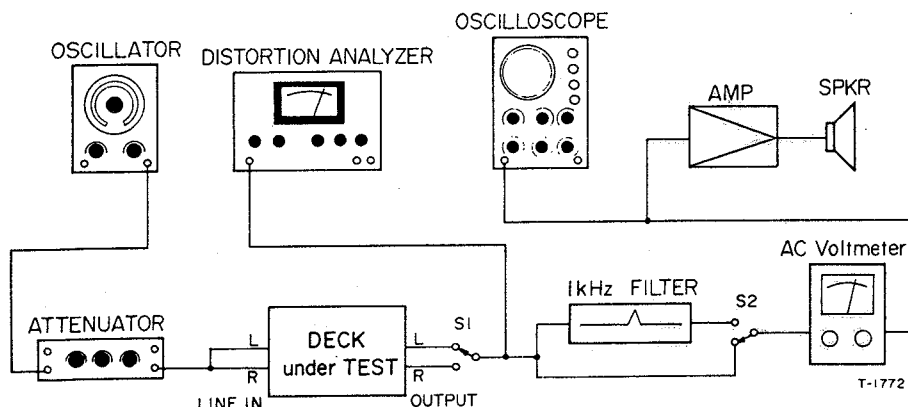

Fig. 6-3 Basic Test Setup
| 2. Specified output level | Connect AC voltmeter between DOLBY TP L (R) and TP EFig. 6-3 | MTT-150 tape                          | R10/R20                               | 580 mV (−2.5 dB)                                                                                                                                                  | ● Specified level                 |
| 3. Peak level meter       | Fig. 6-3                                                         | MTT-150 tape                          | R70/R80                               | 0 dB on peak level meter                                                                                                                                          |                                   |
| 4. Frequency response     | Fig. 6-3                                                         | MTT-316 tape, 40 Hz to 10 kHz section | R11/R21                               | Reference 315 Hz:40 Hz: +2, −4 dB63 Hz: +2, −4 dB125 Hz: +2, −2 dB2 kHz: +2, −2 dB4 kHz: +4, −2 dB6.3 kHz: +4, −2 dB10 kHz: +4, −5 dB |                                   |
| 5. Signal to noise ratio  | Fig. 6-3                                                         | MTT-501 tape                          | Check                                 | 47 dB (min.) ratio                                                                                                                                                | ● Ratio of spec. −5 dB and noise. |
| 1. Min. input level             | Fig. 6-3, but LINE IN → MIC                                                           | Test tone, 400 Hz/-67 dB ± 3 dB (245 μV to 489 μV)   | MIC cont. to Max.            | -5 dB (436 mV)                  | ● For MIC check                                                                                            |
|                                        | Fig. 6-3, but LINE IN → DIN IN                                                        | Test tone, 400 Hz/-35 dB ± 3 dB (9.75 mV to 19.5 mV) | "                            | "                               | ● For DIN IN check                                                                                         |
|                                        | Fig. 6-3                                                                              | "                                                        | Check                        | -5 dB ± 1 dB (388 mV to 489 mV) | IMPORTANT: After this, do not move LINE cont. for all later process.                                       |
| 3. Peak level meter             | Fig. 6-3                                                                              | Test tone, 400 Hz/-9 dB (275 mV)                     | Check                        | 0 dB ± 1 dB on peak level meter |                                                                                                            |
| 3. Record level | Fig. 6-3                                                                                                                            | Test tone, 400 Hz/-12 dB (195 mV) | R16/R26 ....Check ..... | -8 dB (308 mV) ....-8 dB ± 1 dB (275 mV to 346mV) }        | .... Co (CrO 2 ).... NORMAL.... METAL |
| 4. Distortion   | Fig. 6-3                                                                                                                            | Test tone, 400 Hz/-12 dB (195 mV) | Check                       | 2.2% or less .....2.5% or less .....2.0% or less ..... | .... Co (CrO 2 ).... NORMAL.... METAL |
| 5. Frequency response        | Fig. 6-3                                                                                                                          | Test tone required w/spec./-42 dB (6.15 mV)                             | L104/L204         | Reference 400 Hz:40 Hz; +4, -4 dB63 Hz; +4, -4 dB125 Hz; +4, -2 dB250 Hz; +2, -2 dB6.3 kHz; +2, -2 dB8 kHz; +3, -2.5 dB10 kHz; +3, -3 dB ....12.5 kHz; +3, -3 dB ... | .... NORMAL.... Co (CrO 2 ) and METAL                                                                                                                                                              |
| 6. Signal to noise ratio     | Fig. 6-3                                                                                                                          | Test tone, 1 kHz/-9 dB (275 mV) thenNo signal recording         | Check             | 45 dB (min.) ratio ...44 dB (min.) ratio ...                                                                                                                                                     | ● Ratio of 1 kHz portion and no signal portion.... Co (CrO 2 ) and METAL.... NORMAL                                                                                                            |
| 7. Erase efficiency          | Fig. 6-3, switch on 1 kHz filter                                                                                                  | Test tone, 1 kHz/+1 dB (0.869 V) thenNo signal recording        | Check             | 65 dB (min.) ratio                                                                                                                                                                                   | ● METAL only● Record 1 kHz. Rewind tape to mid point of recorded portion. Do no signal recording. Get difference between 1 kHz portion and its erased portion.                                                |
| 8. REC MUTE function         | Fig. 6-3, switch on 1 kHz filter                                                                                                  | Test tone, 1 kHz/+1 dB (0.869 V) thenNo signal recording        | Check             | 65 dB (min.) ratio                                                                                                                                                                                   | ● Co (CrO 2 ) only● Record 1 kHz. Then push REC MUTE button for several sec. Rewind and play tape. Get difference between 1 kHz portion and the created no signal portion.                         |
| 9. Channel separation        | Fig. 6-3, connect OSC → ATT to LINE IN (L) only, switch on 1 kHz filter                                                           | Test tone, 1 kHz/-9 dB (275 mV) for L-ch andNo signal for R-ch. | Check             | 30 dB (min.) ratio                                                                                                                                                                                   | ● Co (CrO 2 ) only● Set deck in record mode. Find differences between 1 kHz recorded portion (L-ch) and no signal portion (R-ch).                                                                  |
| 10. Adjacent track crosstalk | Fig. 6-3, connect OSC → ATT to LINE IN (R) only, and AC voltmeter to OUTPUT (R) only.                                             | Test tone, 125 Hz/-9 dB (275 mV)                                    | Check             | 40 dB (min.) ratio                                                                                                                                                                                   | ● Co (CrO 2 ) only● Record 125 Hz on R-ch. Note output level of its recorded portion. Invert tape and play R-ch track. Check leakage level against the output ref. of previously recorded portion. |
| 11. Dolby NR effect          | Fig. 6-3                                                                                                                          | Test tone:1 kHz/-29 dB (27.5 mV) and10 kHz/-39 dB (8.69 mV)     | Check             | Variation from ref.At 1 kHz: 5.5 dB±2.5 dBAt 10 kHz: 10 dB± 2 dB                                                                                                                     | ● Co (CrO 2 ) only● Record 1 kHz w/DOLBY NR sw. to OUT. Play its portion w/DOLBY NR, OUT and IN. Get the output level difference between OUT and IN.● Repeat the above process for 10 kHz.     |
3. Connect the deck and test equipment as shown in Fig. 6-3.
4. Set R50 fully clockwise (CW); R51 and R52 at mid-point; R53 and R54 fully counterclockwise (CCW).